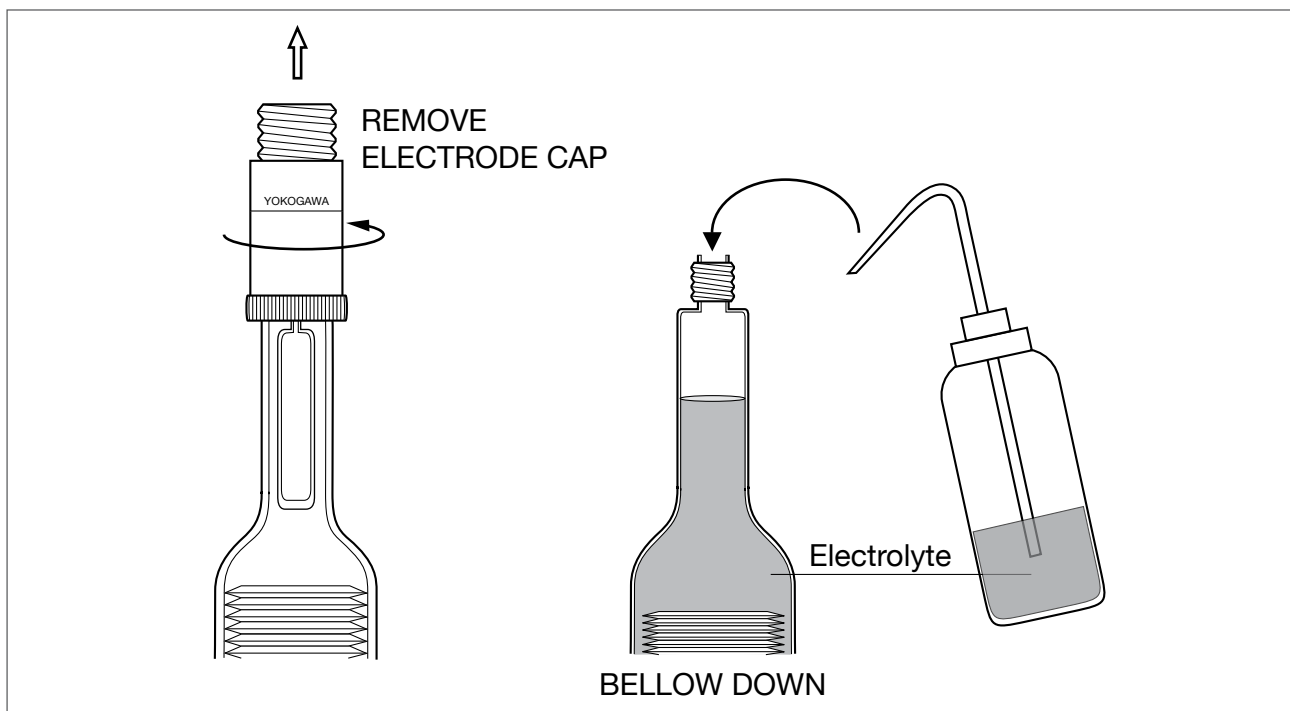

Fig. 7.50: Refill Bellomatic (SR20(D)-AC32)
Step 1: Remove the electrode cap: same as first drawing in fig. 7.50.